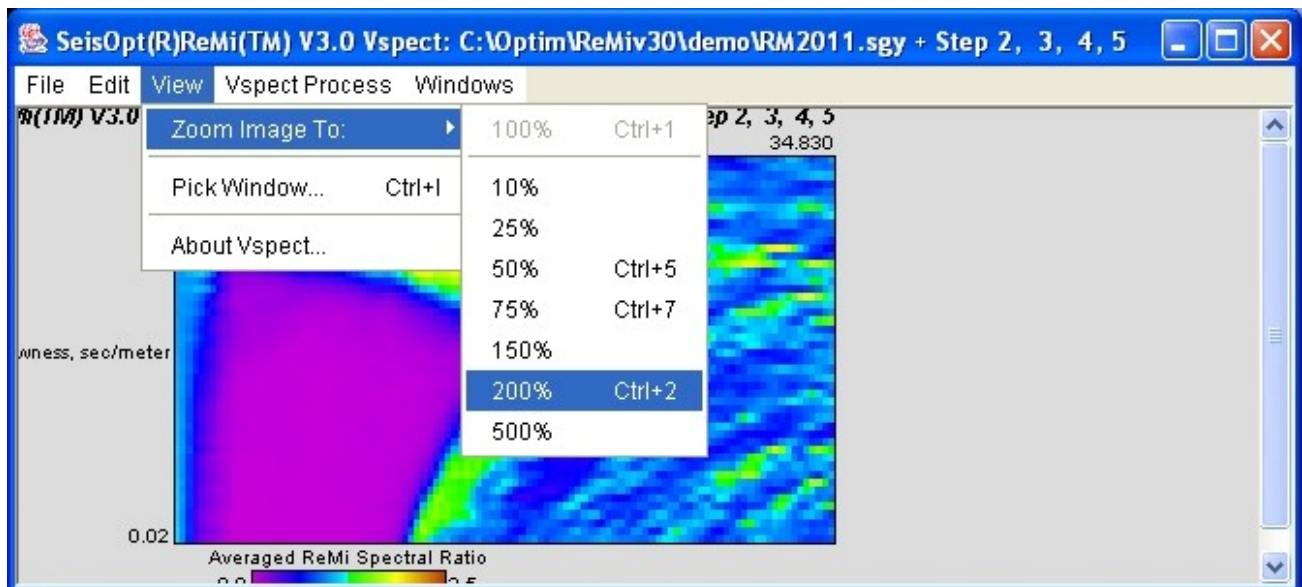

Figure 37: Choose an appropriate “Zoom” percentage to magnify or shrink the p-f image.
2. It is sometimes useful to magnify the image using the “Zoom” options under the “View” menu (Figure 37).